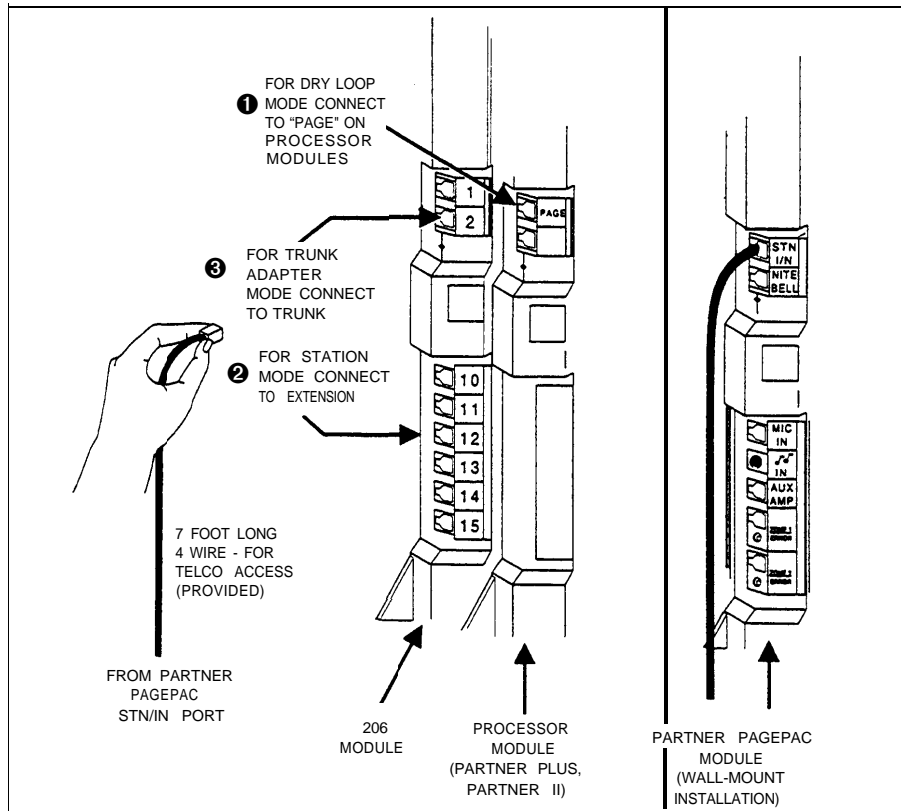

Figure 2-2 Cable Connections for Selected Interface Mode
*The green light below the night bell jack on the module should come on (see Figure 2-2). If it does not, see "Troubleshooting" in Appendix A.*
**Dry Loop Mode** permits the PARTNER PagePac paging system to be connected to the Page Port on the PARTNER II and PARTNER Plus system's Processor Module. This option frees up one of the system station ports (extensions). See Table 2-1 and Figure 2-2 for cabling instructions.
**Station Mode** can be used when there is an available station port (extension) that will not be needed by the PARTNER Plus or PARTNER II system. See Table 2-1 and Figure 2-2 for cabling instructions.
**Trunk Adapter Mode** can be used in the event that neither a Station Port nor a Page Port is available. In this case connections are made to one of the PARTNER Plus or PARTNER II system trunk (line) ports and presents a dry loop interface to the PARTNER PagePac paging systems. This option requires the use of an AT&T PARTNER PagePac Trunk Adapter with included power supply (PEC 5335-301). Table 2-1 and Figure 2-2 provide cabling information. See further Trunk Adapter installation instructions on pages 2-13 through 2-15.
1. Use a standard 7-foot, 4-pin RJ-11 modular cable (provided) to connect the PARTNER Plus or PARTNER II system to one of the following PARTNER PagePac modules (refer to Table 2-1 and Figure 2-2). Connect the modular cable from the PARTNER PagePac module's "STN I/N" port to:
- ❶ – Page Port on processor module (for Dry Loop Mode) or
- ❷ – Station Port (for Station Mode), or
- ❸ – Trunk Port (for Trunk Adapter Mode).